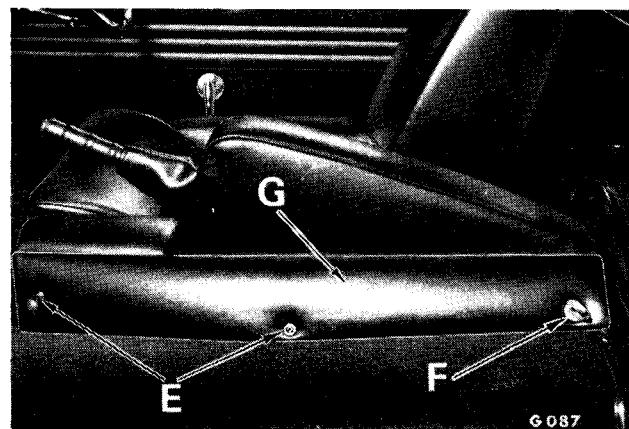

Fig. 4. Transmission tunnel side finishers
Take out screws (E) and safety belt anchor bolts (F) and remove the transmission tunnel finishers (G) (Fig. 4).